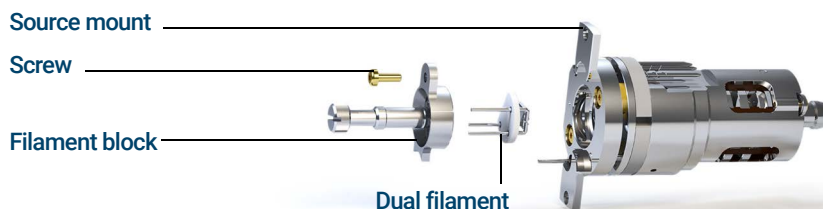

Figure 65. Replacing the dual filament
- 4 Remove the screw securing the filament block to the source mount. (See Figure 65.)
- 2 Insert the three pins on the dual filament through the rear of the filament block. (See Figure 65 on page 202.)